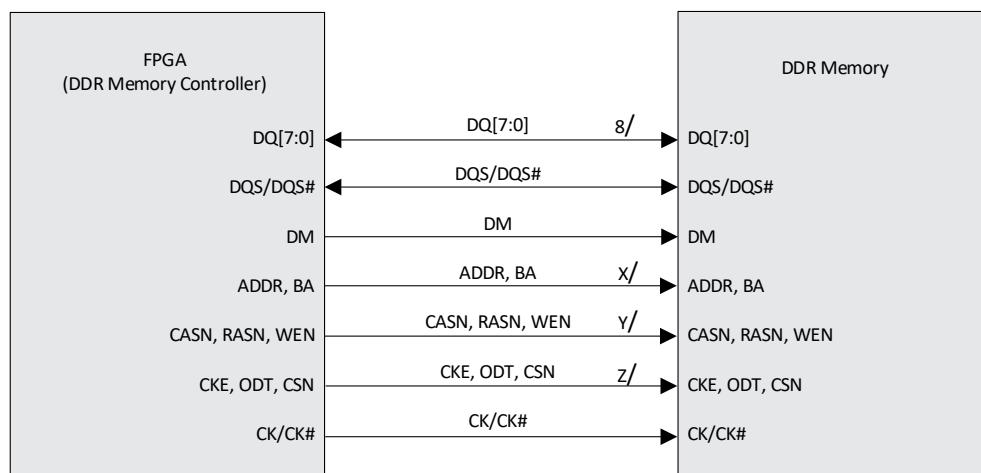
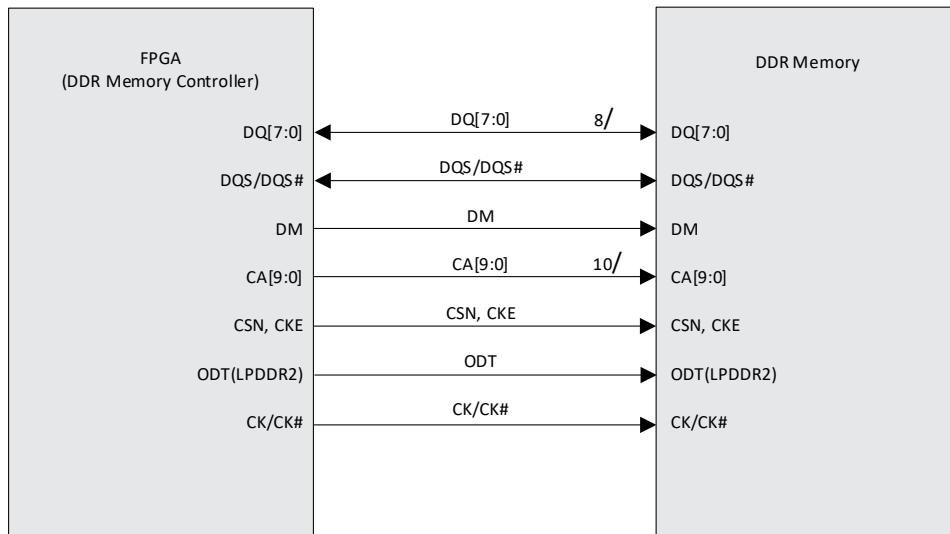
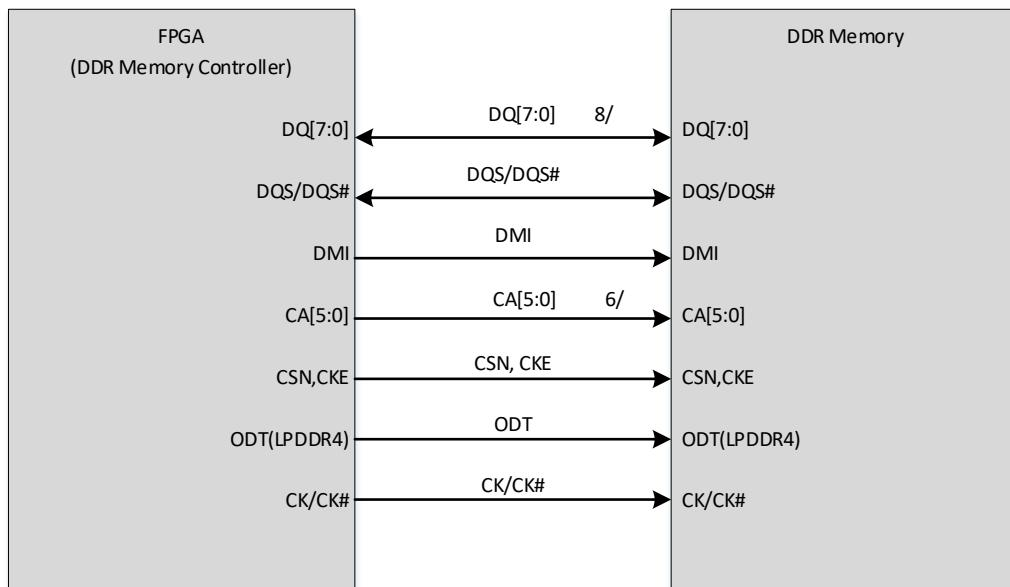

Figure 6.1. Typical DDR3/DDR3L Memory Interface
Figure 6.2. Typical LPDDR2 Memory Interface
Figure 6.3.Typical LPDDR4 Memory Interface
Figure 6.1, Figure 6.2, and Figure 6.3 show typical DDR memory signals. DDR3, DDR3L, LPDDR2, and LPDDR4 memory interfaces are typically implemented with eight DQ data bits per DQS. Therefore, a 16-bit DDR memory interface uses two DQS signals, and each DQS is associated with eight DQ bits, respectively. Both the DQ and DQS are bi-directional ports and are used to read and write to the memory.
DDR memories also require a Data Mask (DM) signal to mask data bits during write cycles. For LPDDR4, Data Mask Inversion (DMI) signal mask data bits during write cycles or inverts data bit during write cycles depending on Mode register setting. Note that the ratio of DQS to data bits is independent of the overall width of the memory. Figure 6.1, Figure 6.2, and Figure 6.3 show typical 8-bit interface that has eight associated DQ data bits per DQS strobe signal.